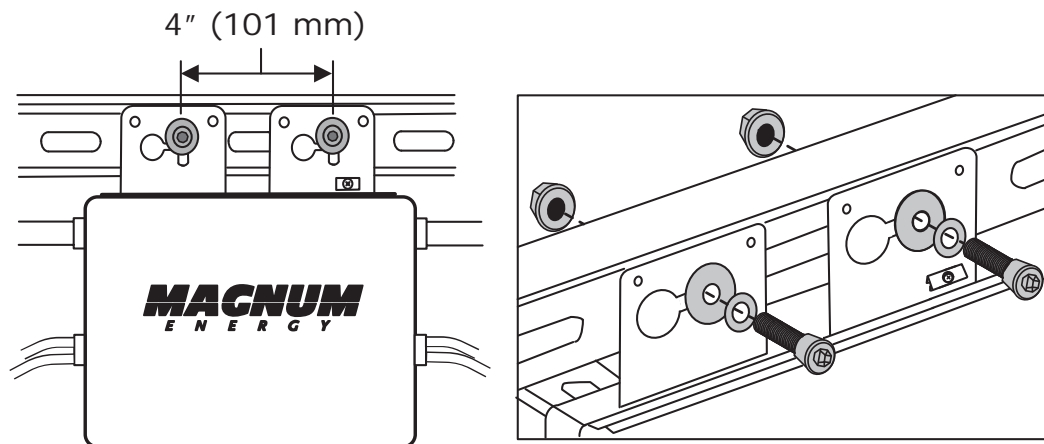

Figure 5, Attaching MicroGTs to the PV Module Frame
2. Mount and attach a MicroGT inverter at each of the identified locations using hardware recommended by the PV module racking vendor (Figure 5).